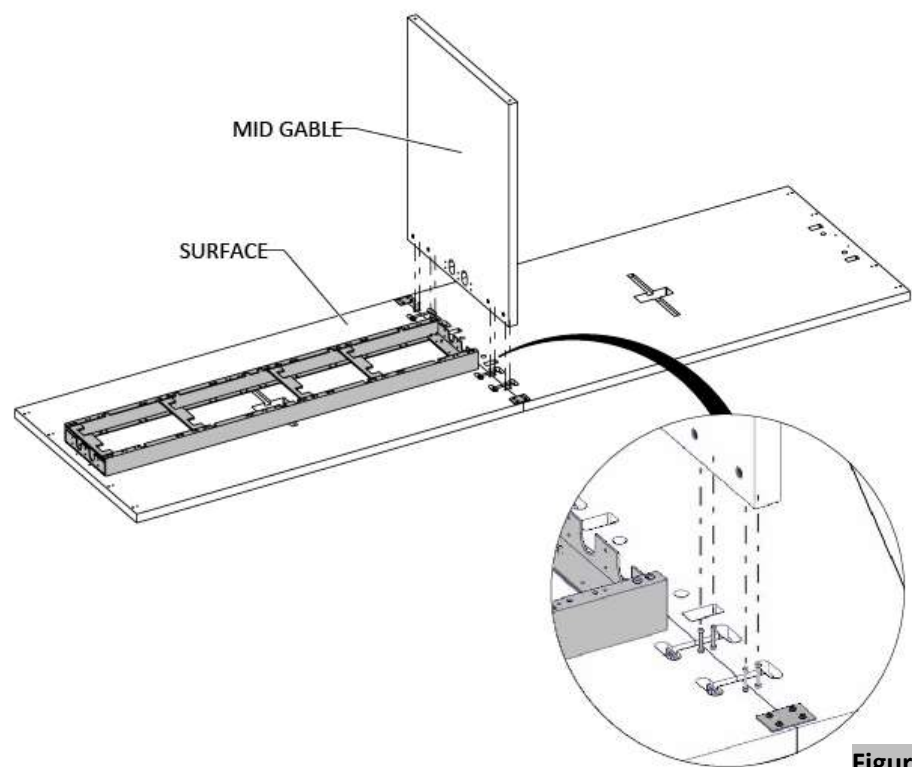

Figure 6
7. Connect the mid gable first to surface and press the boards together by inserting the combi dowels into the holes of the gable, (Figure 6).